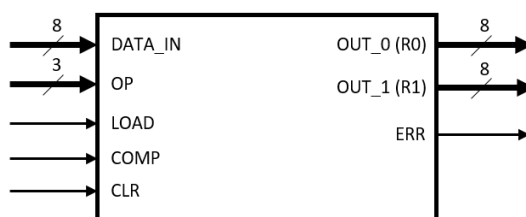

Figure 1: Black box diagram of the arithmetic logic processor (ALP) module
The ALP you will design has 5 input ports and 3 output ports. There is a data input port for 8-bit input data and a 3-bit input port for operation select (OP). Additionally, there are three control inputs for data load (LOAD), content clearing (CLR) and computing (COMP). At the output, there are two 8-bit outputs for result and an error output pin (ERR) to indicate the ALP operation has resulted in an arithmetic overflow. The ALP as a black box is depicted in Figure 1.